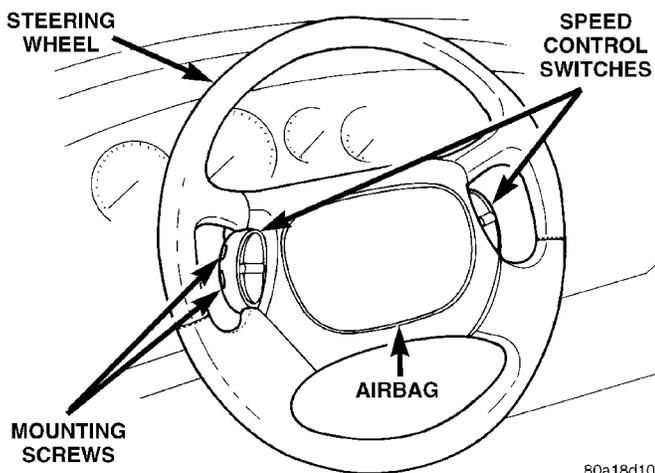

Fig. 8 Speed Control Switches
- (5) If vehicle is equipped with speed control, remove the speed control switches from the steering wheel (Fig. 8). If vehicle is not equipped with speed control, remove the trim covers from the sides of the steering wheel.